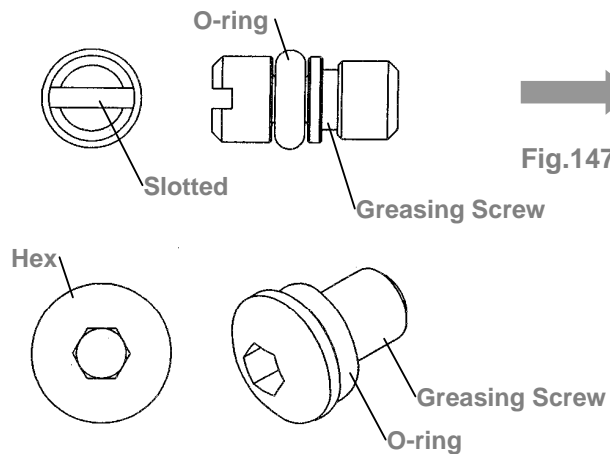

Fig.147
- ③ Use the screwdriver either, the slotted or the hex one to tighten the greasing screw, Fig. 147.